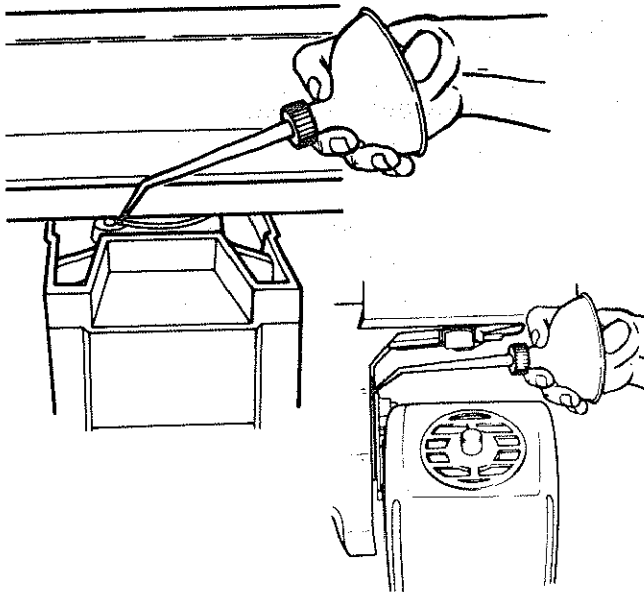

Fig. 120 - Swivel and Bevel Index Pins
- Lubricate the bearing points where the *arm* attaches to the *column tube*. With a #2 Phillips screwdriver remove two screws and the rear arm cover for access to these points. Be careful not to get lubricant on the *locking rings* as this will adversely affect the miter locking function. (Figure 120)